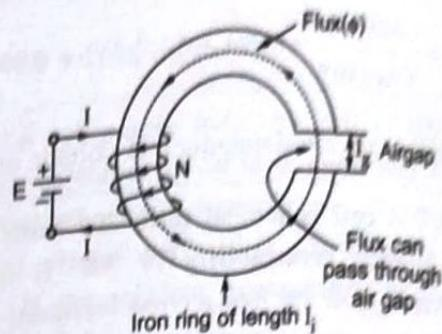

Fig. 1.13.6 A ring with an air gap
- Consider a ring having mean length of iron part as ' l_i ' as shown in the Fig. 1.13.6.